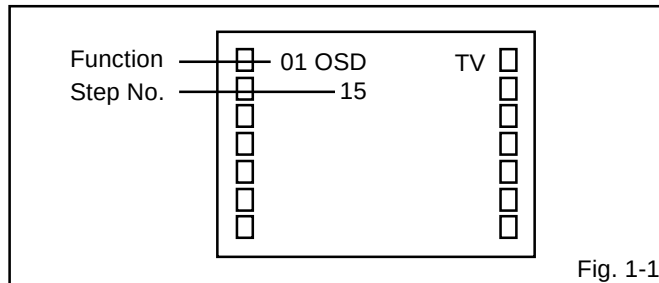

Fig. 1-1
2. Press the VOL. DOWN button on the set and the Channel button (9) on the remote control for more than 1 second to appear the adjustment mode on the screen as shown in Fig. 1-1.
5. Activate the adjustment mode display of Fig. 1-1 and press the channel button (03) on the remote control to select "CUT OFF".
4. Activate the adjustment mode display of **Fig. 1-1** and press the channel button **(16)** on the remote control to select "G DRV".
3. Activate the adjustment mode display of **Fig. 1-1** and press the channel button **(04)** on the remote control to select "HPOSI".
3. Activate the adjustment mode display of **Fig. 1-1** and press the channel button **(08)** on the remote control to select "VPOSI".
3. Activate the adjustment mode display of **Fig. 1-1** and press the channel button **(07)** on the remote control to select "VSIZE".
3. Activate the adjustment mode display of **Fig. 1-1** and press the channel button **(09)** on the remote control to select "VLIN".
4. Activate the adjustment mode display of **Fig. 1-1** and press the channel button **(64)** on the remote control to select "SEPAL".